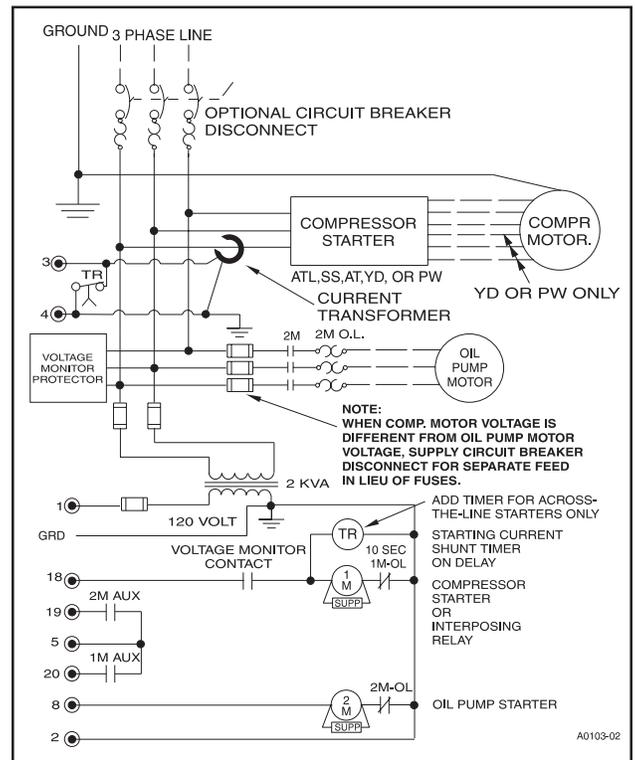

Figure 11
5. For customer-supplied across-the-line starters, a shunting device must be installed across the Current Transformer (terminals 3 & 4 as shown in Figure 11).